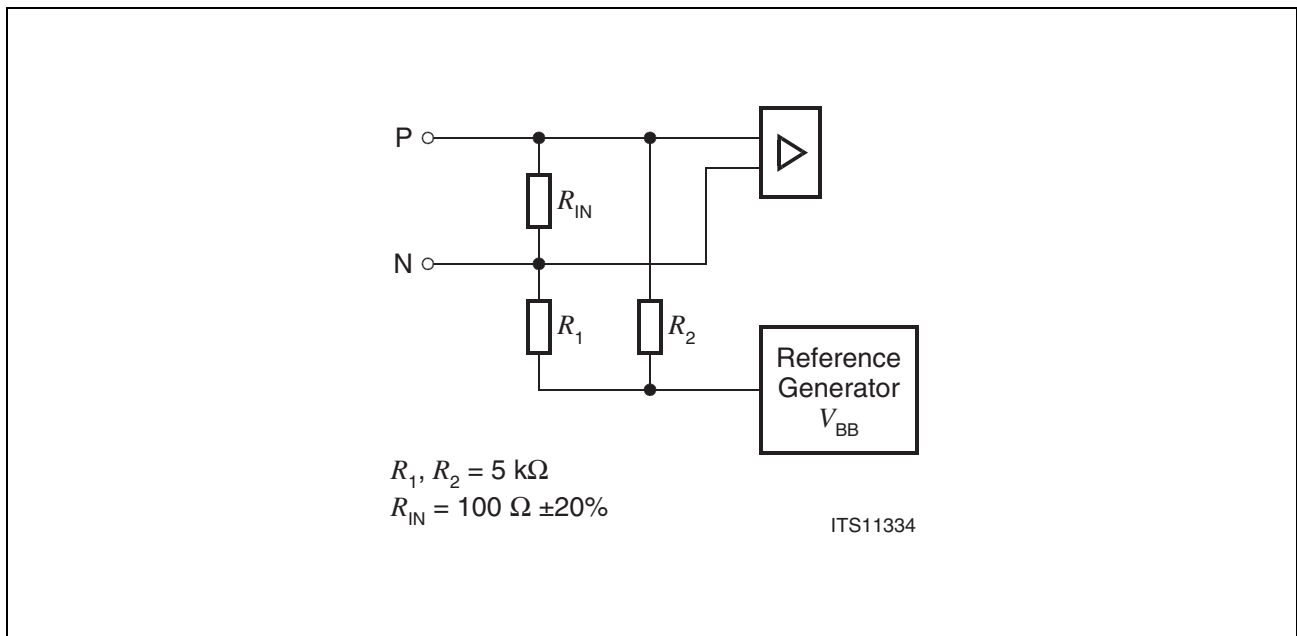

Figure 9 Data/Clock Input Stage
- 12) Data/clock inputs are internally connected to V_{BBD}/V_{BBC} by resistor R_1/R_2 with a differential termination by R_{IN} . See data input stage description (see **Figure 9**).